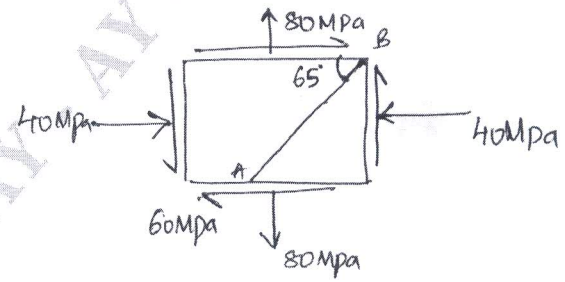

Fig. Q3 (b)
- c. At a point in a strained material, the stresses are as shown in Fig. Q3 (c). Determine the (i) Principal stress (ii) Normal and tangential stress on the plane AB. (iii) Maximum shear stress. (10 Marks)